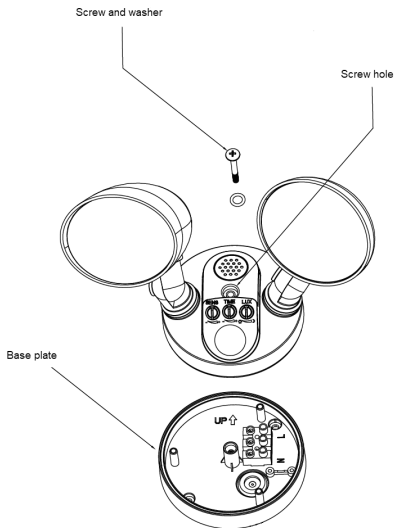

Fig. 1
- Remove the base plate from the luminaire by removing the centre screw, see Fig.1
- Connect the luminaire to the mains supply ensuring the correct polarity is observed (see Fig. 1): L - Live (brown), E - Earth (green/yellow), N - Neutral (blue). The earth terminal is non-functional and only provided for convenience